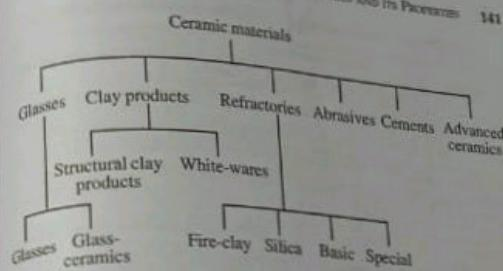

Figure 6.1: Classification of ceramic materials on the basis of application
On the basis of their applications ceramics materials divided into six. They are (1) glasses (2) clay products (3) refractories (4) abrasives (5) cements and (6) advanced ceramics. Further the glasses are subdivided into two: glasses and glass ceramics. Clay products are subdivided into two: structural clay products, refractories are subdivided into four: fire clay, silica, basic and special. The classification is shown in figure 6.1.